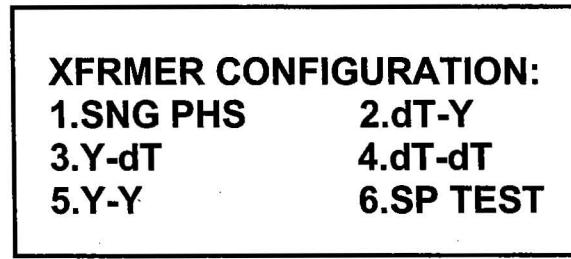

Figure 14-2. Transformer Selection Menu
1. The ATRT-03/03A/03B will support 36 "Non-Standard Transformer" type tests. These "Non-Standard Transformer" tests are identified under special test (selection #6 of Figure 14-2).